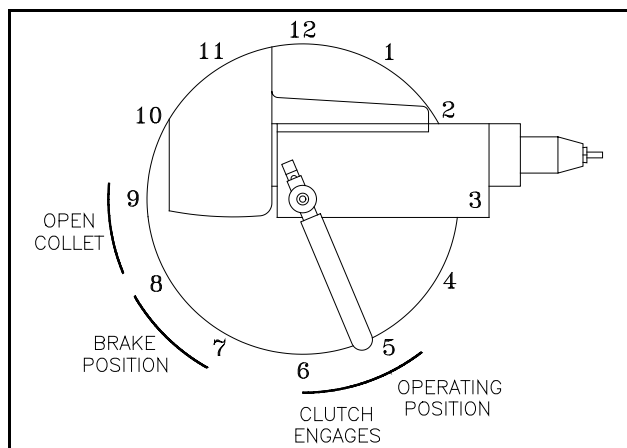

Figure 5.
- 5.2.3 Work is done with the handle in the operating position at approximately 5:00 o'clock. See Figure 5.
- 5.3.1 From the operating position move the handle clockwise to the open collet position (9:00 o'clock). See Figure 5.